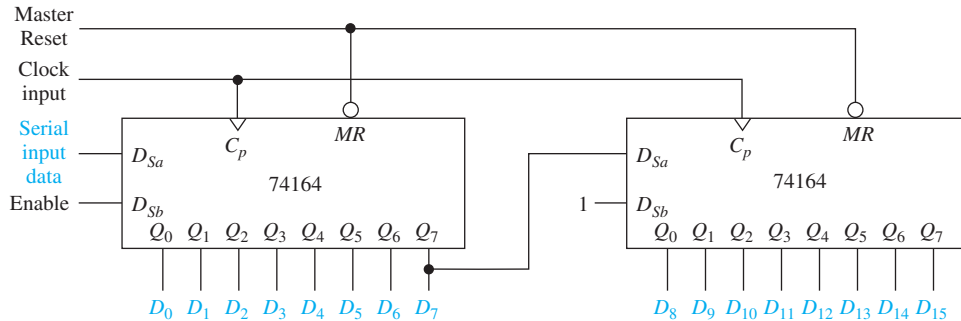

Figure 21 A 16-bit serial-to-parallel converter.
Solution: First, we have to look through a TTL data manual to see what is available. The 74164 is an 8-bit serial-in, parallel-out shift register. Let's cascade two of them together to form a 16-bit register. Figure 21 shows
16. The serial-to-parallel converter in Figure 21 could also be used for serial in to serial out. True or false?